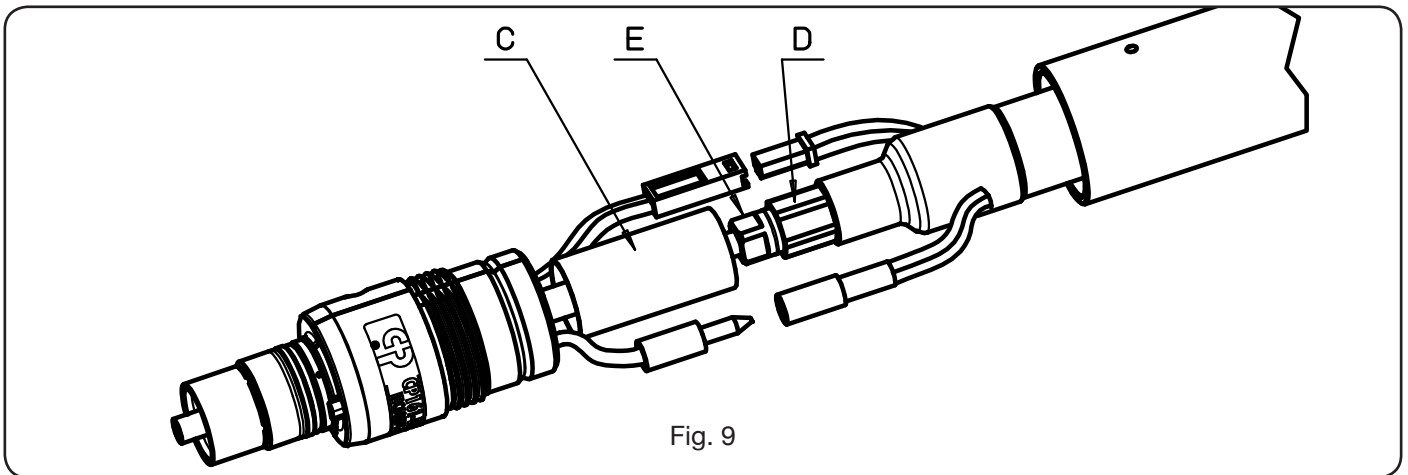

Fig. 9
- Screw in fittings **D** and **E** according to the arrow direction - Fig .9.
direction - Fig.9.